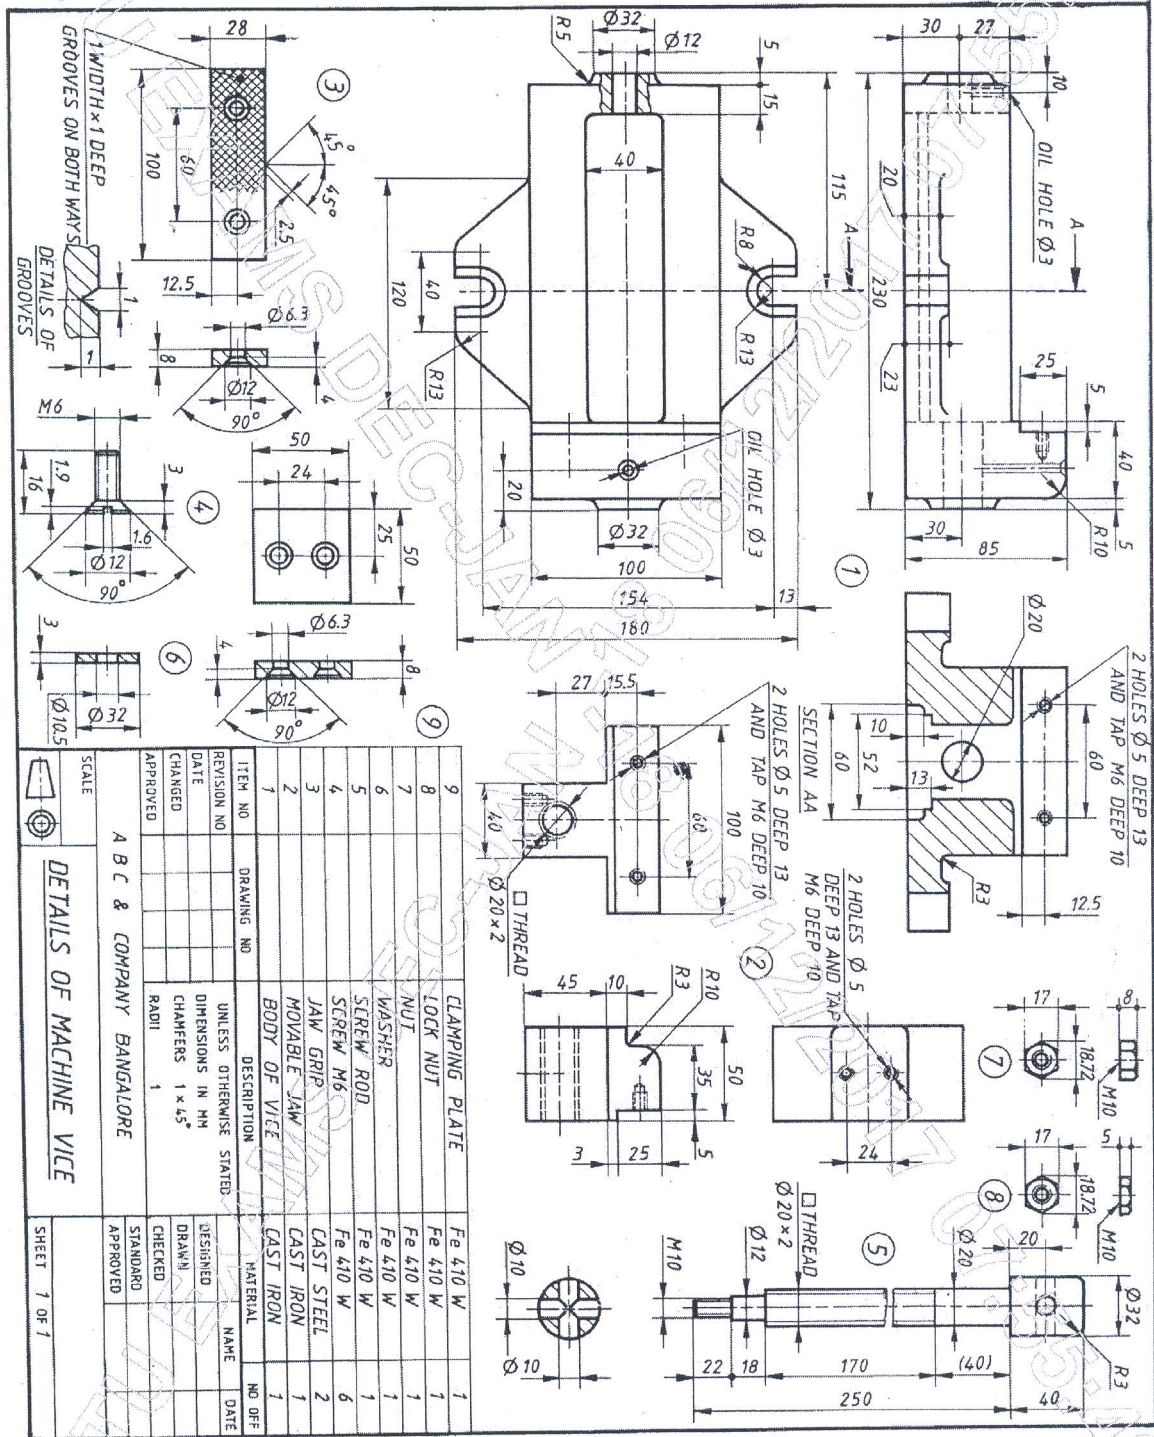

Figure 3 – MACHINE VICE
Q.No.6 Details of MACHINE VICE is shown in following Figure 3. Assemble the parts and draw the following views. (a) Sectional Front View (b) Top view. (50 Marks)